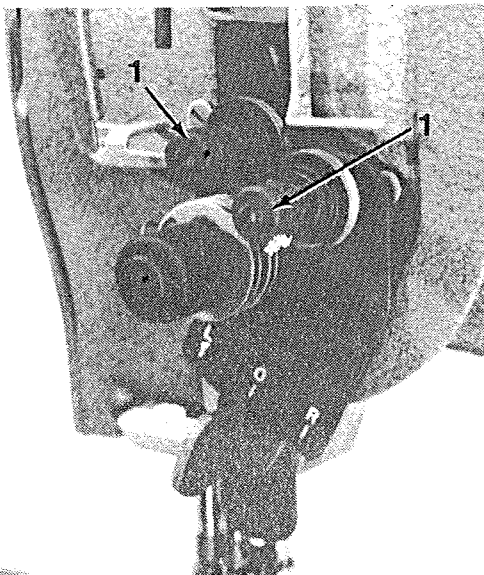

FIG. 13
A. Tension Of The Upper Thread (Fig. 13)